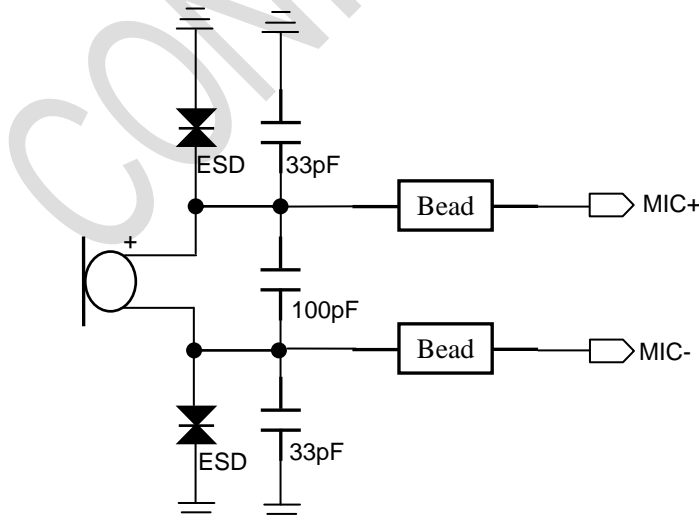

Figure 3.5-1 Electret MIC Circuit
(1) The MIC input signal (MIC + / MIC-) provided by the module only supports Electret MIC (Electret MIC have only two pins). The reference circuit is shown in Figure 3.5-1.